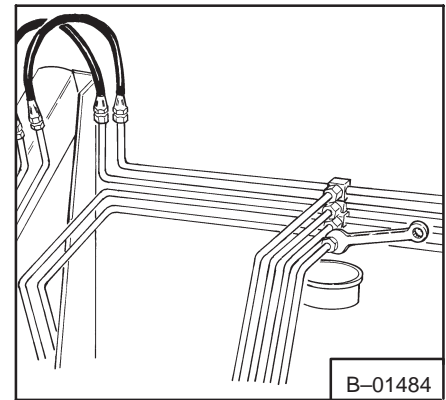

Fig. 26 Checking Lift Cylinder Seals
2. Disconnect the bottom tube line on the "T" at the rear of the machine (Fig. 26). Plug the tube with a 1/2" NF SAE male plug.